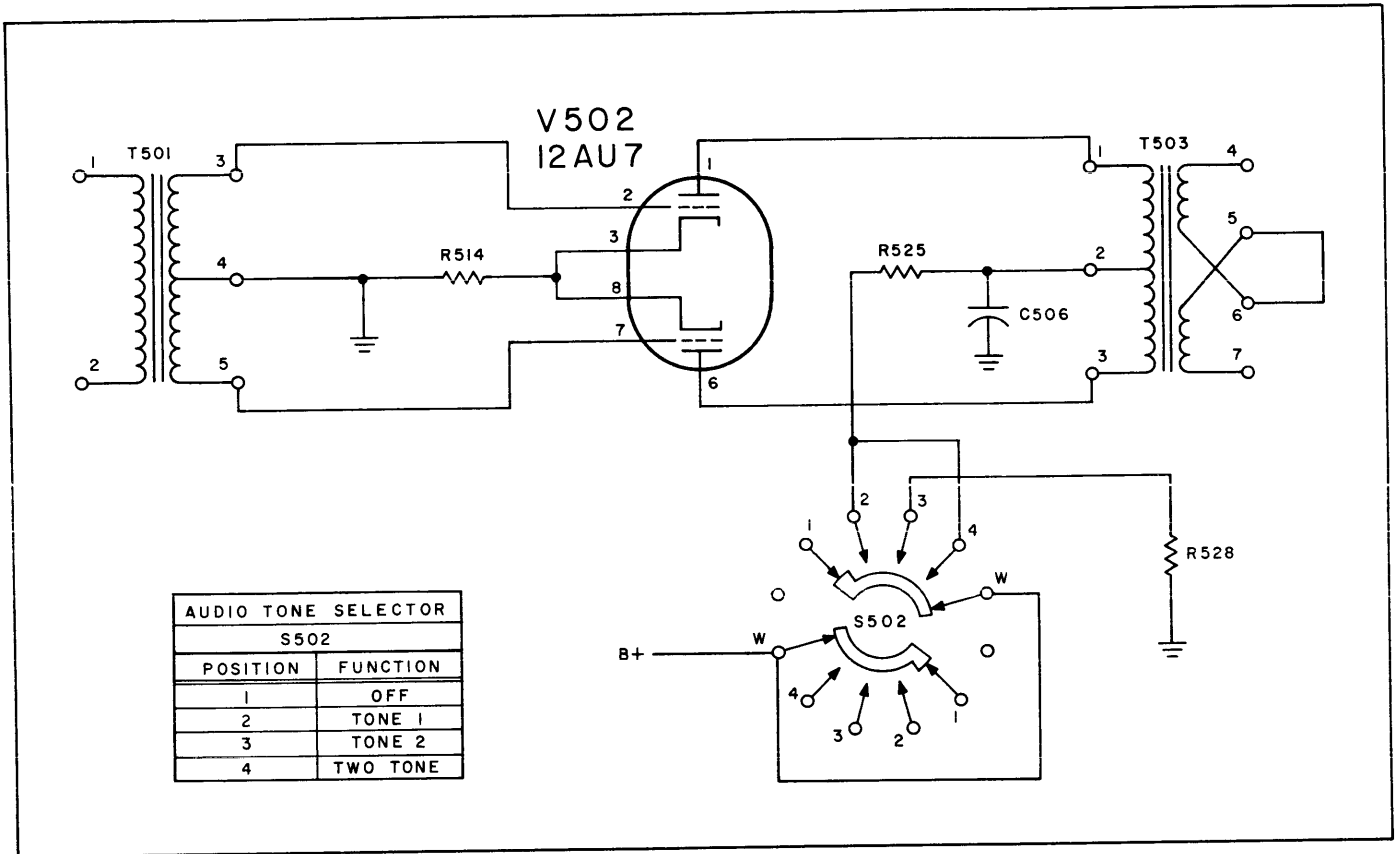

Figure 4-3. Schematic Diagram, Audio Amplifier, TTG-2
(2) AUDIO AMPLIFIER. - Refer to figure 4-3. The TTG-2 employs a push-pull class A amplifier comprising a 12AU7 electron tube (V502), the secondary winding of transformer T501, the primary winding of transformer T503, and AUDIO TONE SELECTOR S502. When S502 is set at TONE 1 or